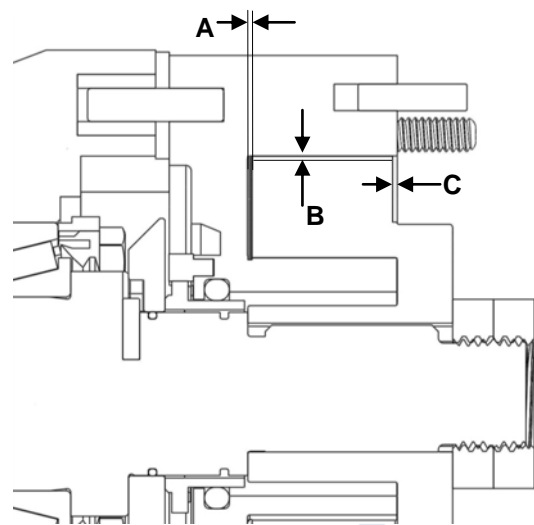

**Figure 46: Pressing Shafts into Gear Case**
4) Set the gear case on a press with the fluid end side facing up. Place the required thickness of shim stock so it sits on the shoulder of the front shaft bore of gear case. Apply lubricant to the outside of the bearings. Place shaft assembly (one shaft at a time) in the gear case with the spline end facing up. Making sure that the drive and the short shafts are in the correct bores, press the shafts into gear case until bearings are fully seated (Figure 46). See Table 4 on page 22 for the required force.